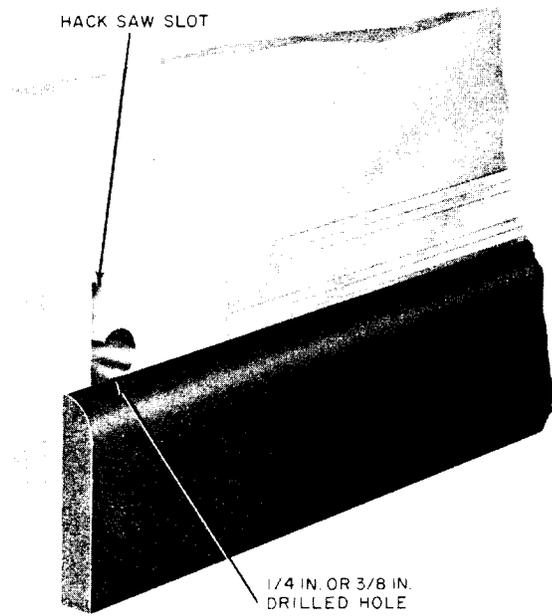

Fig. 15—Hole Through Wall for B Station Wire
- (1) Drill 1/4- or 3/8-inch hole through wall at desired location.
- (2) With a keyhole hacksaw, cut a slot on side of hole opposite direction of intended wire run (Fig. 15).
- (3) Carefully pass only a few inches of wire through wall, place a No. 718 tap, and splice wire at this point to extend wire run.